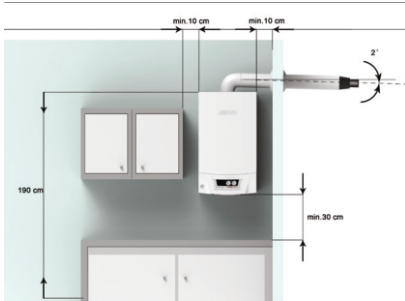

Figure 1.2.1
- Locations for device installation are shown in Figure 1.2.1 and 1.2.2.